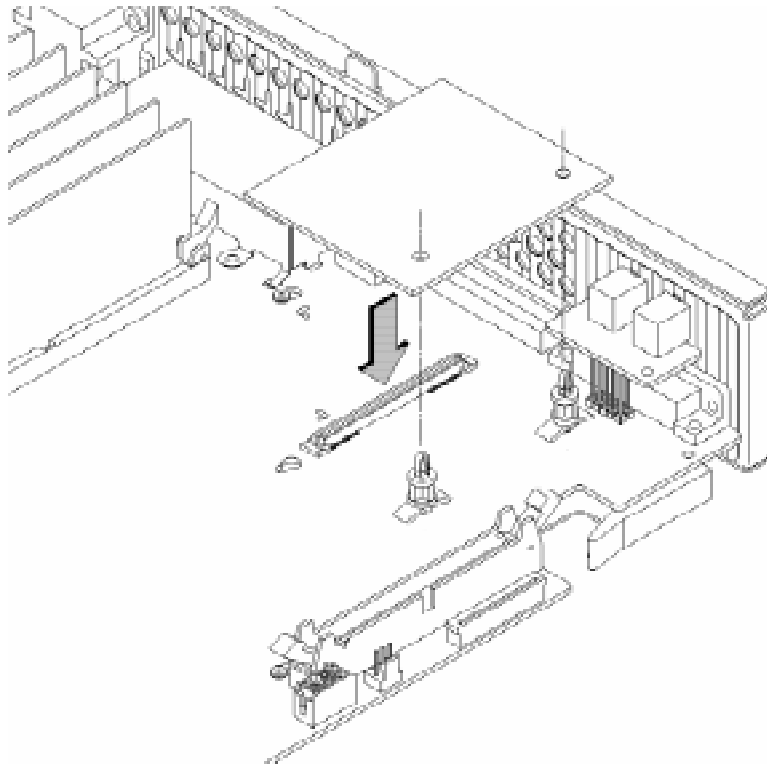

Figure 63
- 1 Install the standoffs into the four holes on the CPU board, as shown in Figure 63.
- 2 Line up the connector on the EGRAM module and the connector on the CPU board while at the same time aligning the standoffs to the holes in the EGRAM module, as shown in Figure 63.